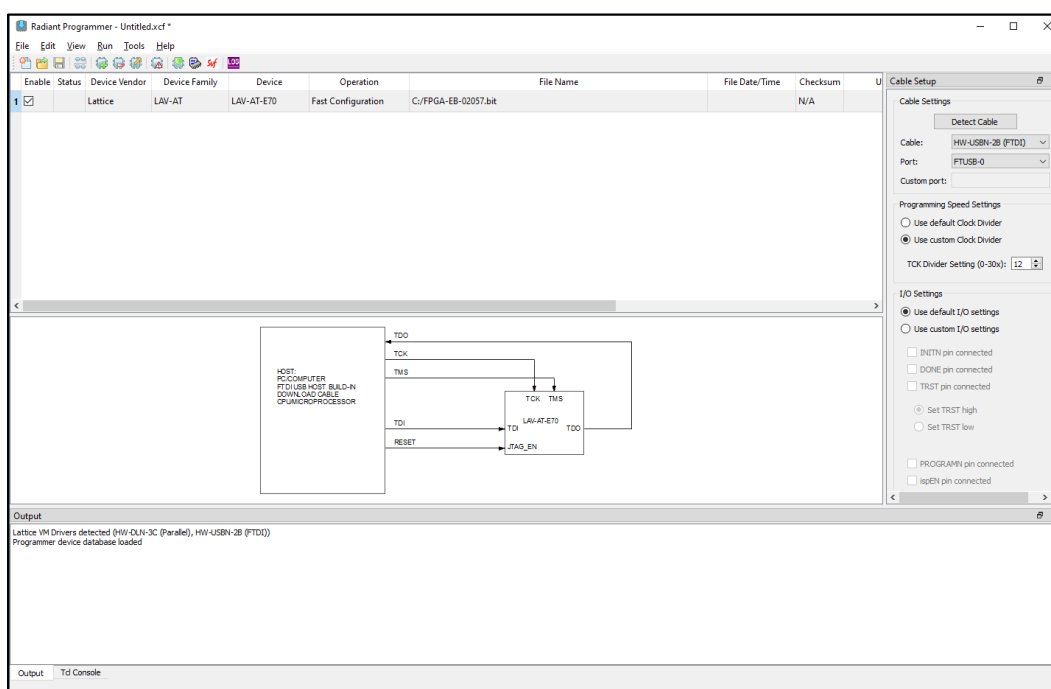

Figure 5.5. Radiant Programmer
4. The Lattice Radiant Programmer interface opens as shown in Figure 5.5. Double-click the **Operation** field.